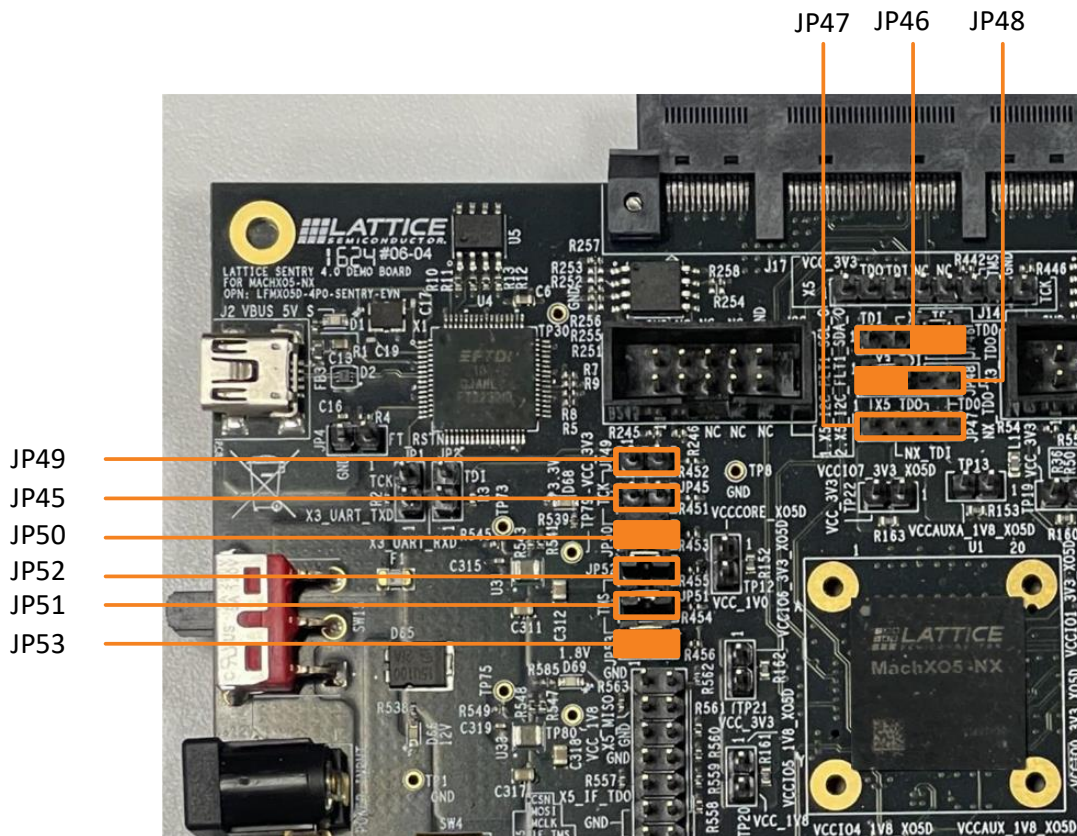

Figure 5.10. MachXO3D Configuration Jumpers
1. Connect the board jumpers, as shown in Table 5.1 and Figure 5.10.